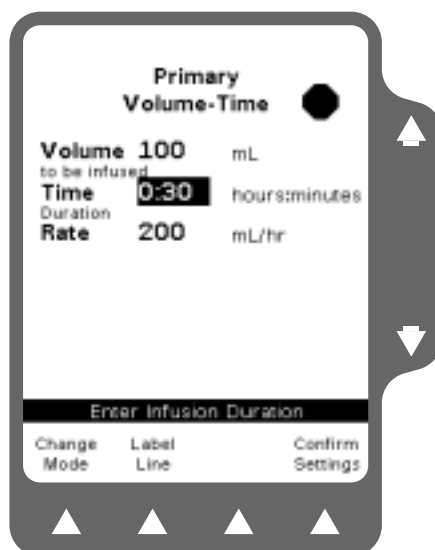

Figure 5-27 Confirm Settings
7. Press the **Confirm Settings** soft key, then press the **START** key to begin the infusion (Figure 5-27).